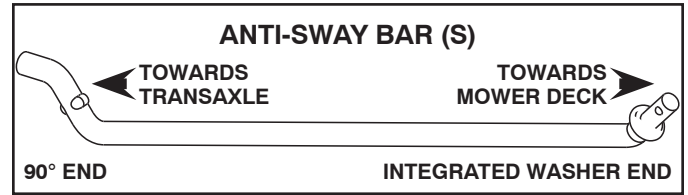

Fig. 25
5. INSTALL ANTI-SWAY BAR (S) (IF EQUIPPED) (See Fig. 25- 27)